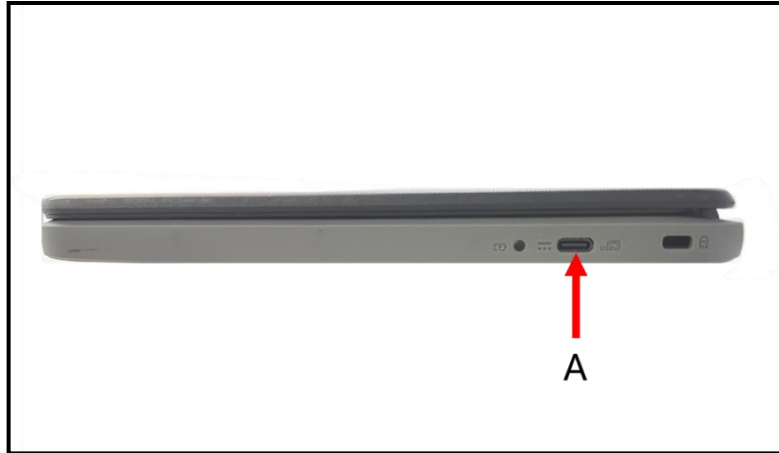
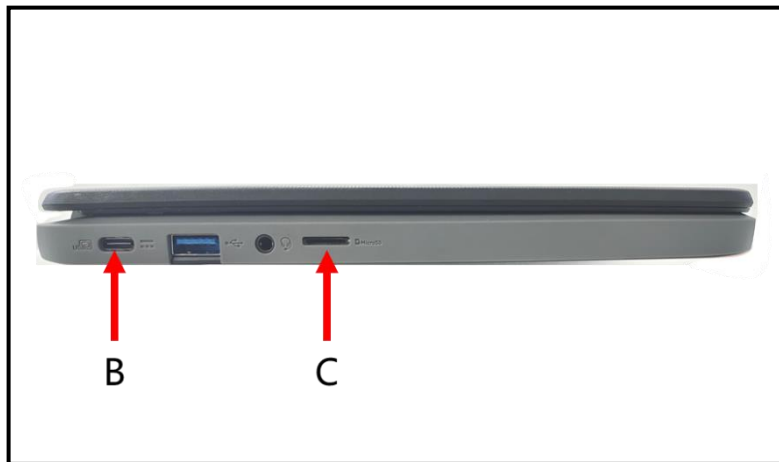

Figure 3-1. AC Adapter Outlet
Figure 3-2. MicroSD Card Removal
2. Remove the power adapter from the USB Type-C port (A) as shown in Figure 3-1 or from the USB-C port (B) as shown in Figure 3-2.
4. Remove the microSD card from the microSD card slot (C) (Figure 3-2).